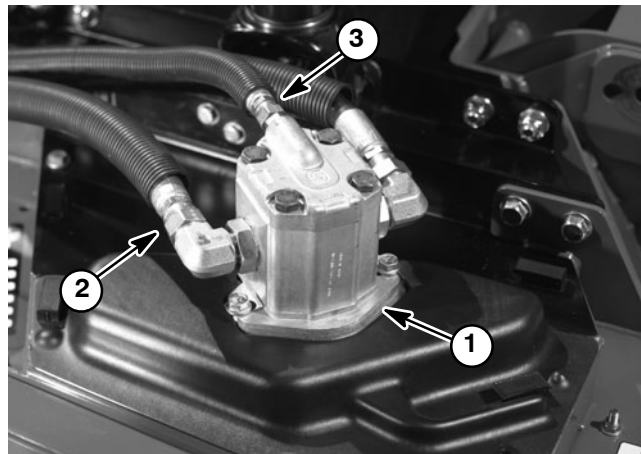

Figure 24
3. Disconnect hose from return of the motor to be tested (Fig. 24). Install flow tester in series with the motor and disconnected return hose. Make sure the flow control valve on tester is fully open. (Fig. 25).